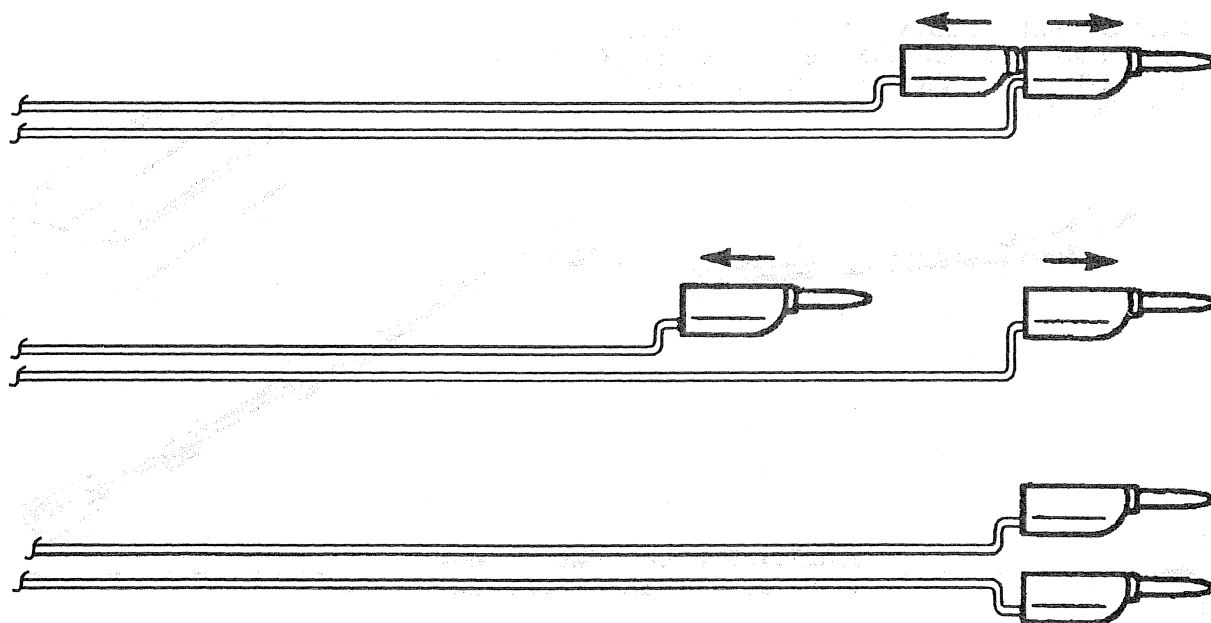

Figure 19—Separating the Two Shorted Banana Plugs
17. Separate the two banana plugs on the SIR deployment harness (Figure 19).